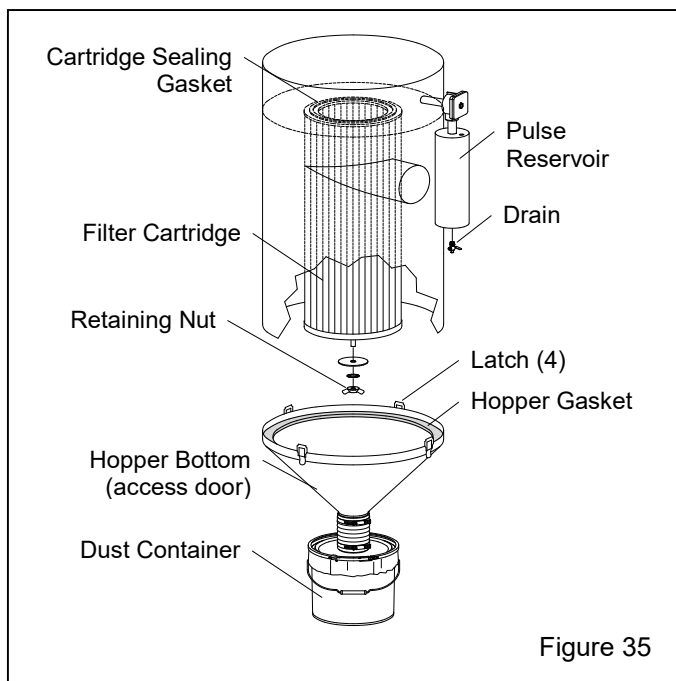

Figure 35
7.7 Filter-Cartridge Replacement – Figure 35